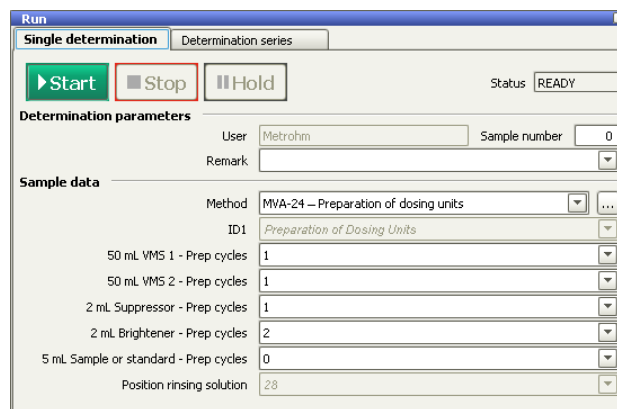

Figure 18. Example for the settings in the «Run» window to prepare the 807 Dosing Units using the method «800105029EN – MVA-24 - Preparation of dosing units».
For startup or shutdown of the system, the preparation of 807 Dosing Units can be done from the **viva** «Manual control». But more conveniently, the 807 Dosing Units can be prepared using the method «800105029EN – MVA-24 - Preparation of dosing units», which is provided with this Application Bulletin. The method allows the user to specify the number of preparation cycles individually for each 807 Dosing Unit on the workplace as shown in **Figure 18**.
- 807 Dosing Unit «5 mL Standard or sample» is usually prepared within the determination methods with solution from the rack of the sample changer. The consequence for a manual preparation is that the intended solution also needs to be placed on the rack and the position needs to be specified. In this method, this is covered by the parameter «Position rinsing solution» (see **Figure 18**). When the 807 Dosing Unit «5 mL Standard or sample» should be prepared, the sample changer moves to the specified position and immerses the needle into the solution. In the example, the position is fixed at number 28, just as in the determination methods.